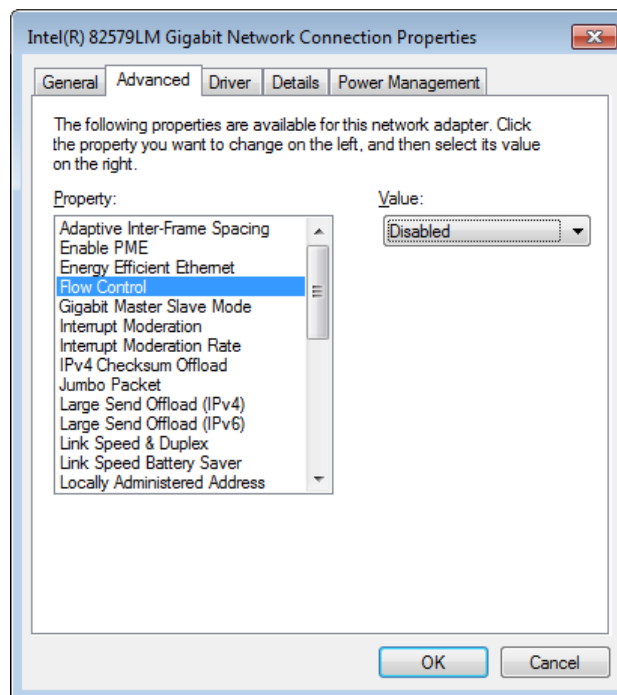

Figure 113: Network interface card - advanced driver settings - Flow Control
4. The settings of the driver can be accessed by choosing the *Advanced* tab of the opened window. As shown in Figure 113 , set the value of the *Interrupt Moderation Rate* property to *Disabled*.